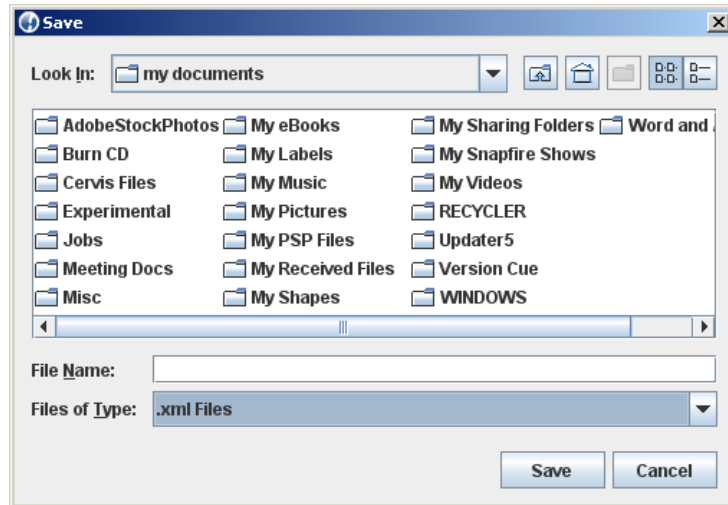

Figure 14
7. Click the **File** menu and then click **Save workspace as...** This opens the dialog box shown in Figure 14 with which you can decide what to call the configuration file and where to store the file. The saved file will have a an **xml** file extension. Enter the filename in the File Name field. Click the **Save** button. Cancel aborts the process.